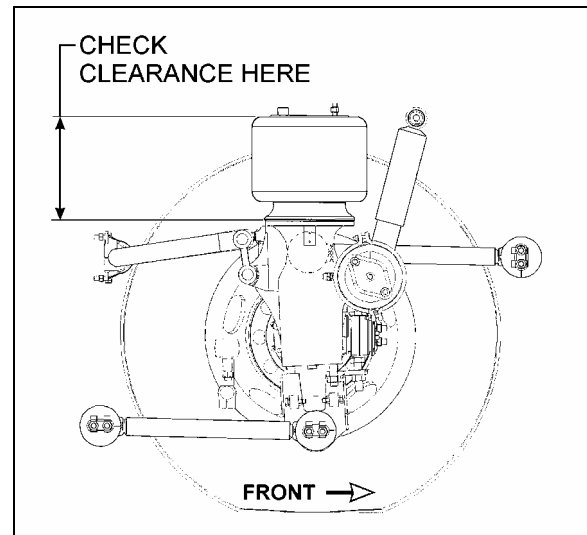

FIGURE 14: TYPICAL AIR SPRING CLEARANCE 16097
The appropriate vehicle body height is obtained by measuring the clearance of all the air springs installed on the front and drive axles. The clearance should be 11 11/16” (297 mm) for the air springs installed on the front axle and 11 1/2” ± 1/4” (292 ± 6 mm) for those installed on the drive axle. Refer to figure 14 to identify the correct location where the measure has to be taken. At this point, it should not be necessary to make an adjustment under normal service conditions. However, if an adjustment is required, change the position of the overtravel lever in relation to the overtravel control body. The lever should be moved up to raise the height of vehicle and down to lower it. Check that main air pressure is at normal operating
1. With the vehicle at normal operating air pressure, check the air spring clearance as illustrated in figure 14. This clearance should be 11 11/16” (297 mm) for the front axle air springs and 11 1/2” ± 1/4” (292 ± 6 mm) for those on the drive axle.
The measure should be taken from under the upper air spring support on subframe to top of the lower air spring support on axle (refer to fig. 14 for more details). If adjustment is required, begin with the drive axle.